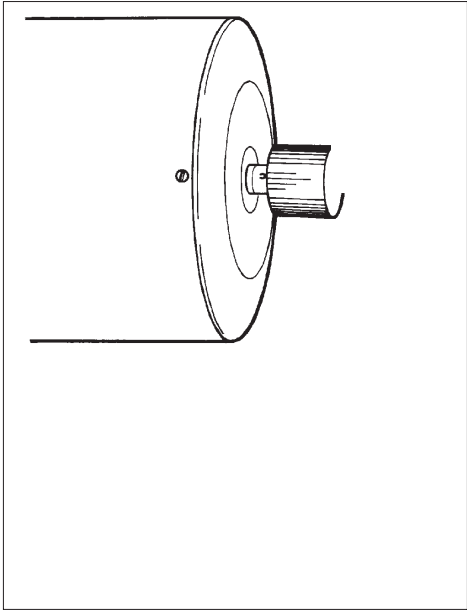

Fig. 4-5c: Rod-side specimen rod position
- To observe the specimen on the *rod-side* (rod position see Fig. 4-5c) proceed as described above, but turn inner knurled ring counterclockwise to the stop.